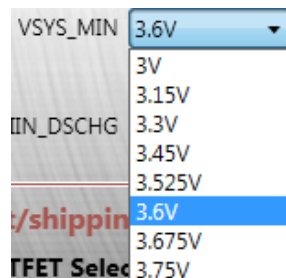

Figure 15: V_{SYN_MIN} Setting
13. Set the V_{SYN_MIN} voltage threshold (see Figure 15). This threshold ranges between 3V and 3.75V, and the default value is 3.6V.